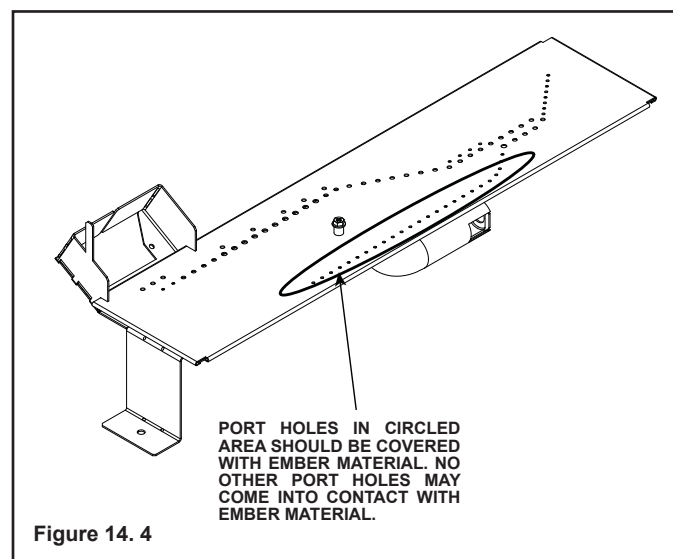

Figure 14.4
- Embers CANNOT be placed directly over ports. See Figure 14.4 for the only exception to this guideline. Care should be taken not to cover the lighting trail of ports (from back to front).
- Some of the small port holes should be covered with ember material. See Figure 14.4 for detail.